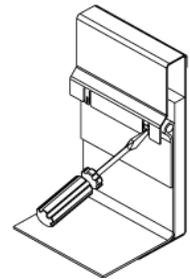

Figure 3
3. Install roofing material up to and surrounding the roof curb, and under the counterflashing at the top of the curb. Use the EZ tab feature, *figure 3*, to provide additional mechanical support to hold and secure roofing membrane. Lap and seal all joints in roofing material to provide a weather-tight seal.